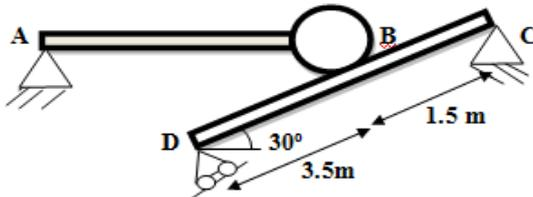

Fig.508
- d) A 1000 N cylinder supported by a horizontal rod AB and a smooth uniform rod CD which weighs 500 N (figure 508). Assuming A B C and D to pin jointed and weight of AB is negligible, Find reaction C and D.